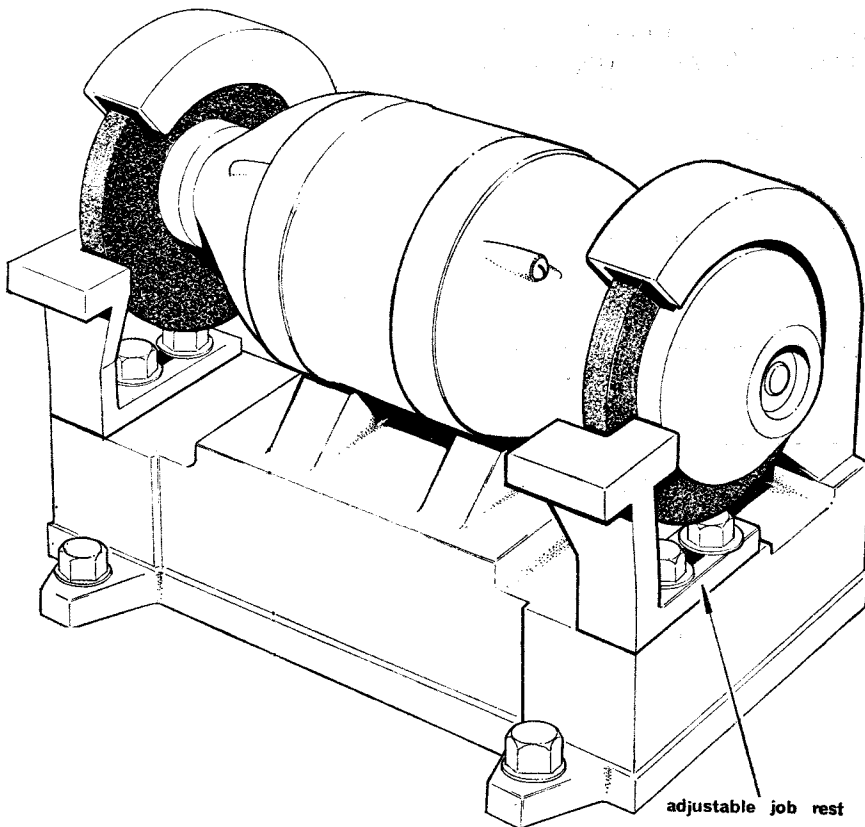

Fig. 6 Grinding machine
11. Proper use of a power-driven grinding wheel will produce a smooth level surface (Fig 6).